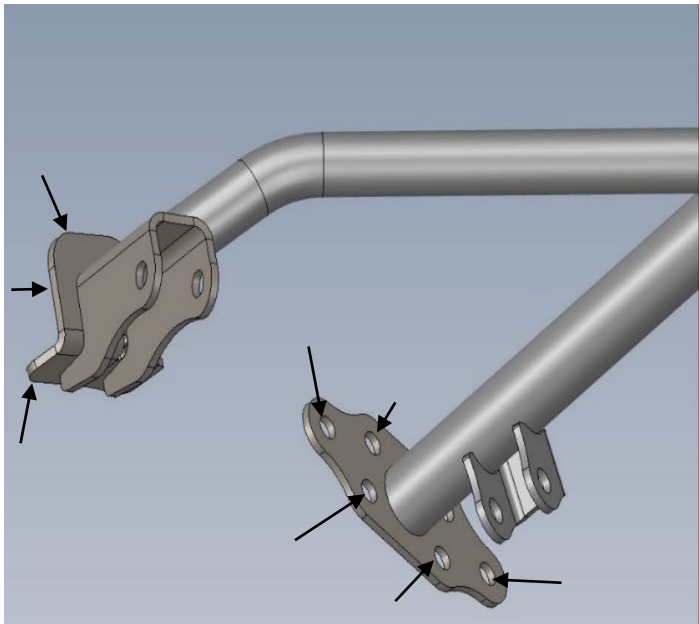

Figure 15
7. Using a welder capable of 1/4" penetration, plug weld all holes in the front flanges and the flange edges of the rear flanges. **(Figures 15& 16)** Alternate sides during welding to prevent overheating/warping of the flanges or frame rails. **Using compressed air to cool each weld and eliminate the risk of inner frame-rail fires is highly recommended.**